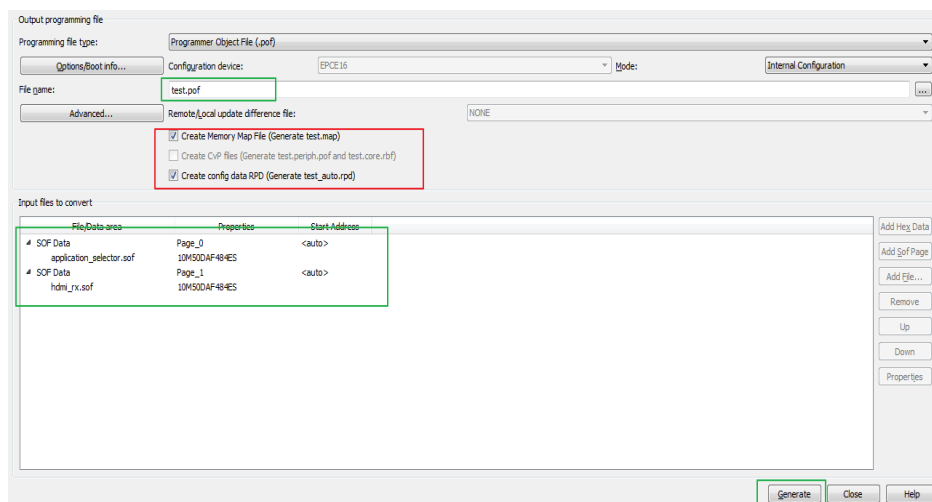

Figure 7-6 Setting Convert Programming File
- In the Input files to convert table, choose the application_selector.sof for the Page_0 sof data. Then add a sof item Page_1 sof data and choose the sof file of your design. Enable the Create config data RPD checkbox as shown in **Figure 7-6**.Click the generate to convert the file.(3*)